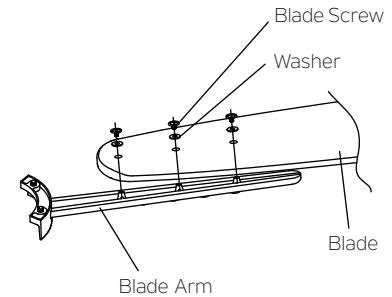

Fig.16
Step 1. Position the blade over the blade arm with threaded posts showing. Make sure the bottom edge of the blade is fully seated against the blade arm. With a Philips screwdriver, start a screw into the blade arm (do not tighten) and repeat for the 2 remaining blade screws and washers. Tighten each screw securely starting with the center screw. Make sure the blade is straight. Repeat steps for the remaining blades.(Fig. 16)